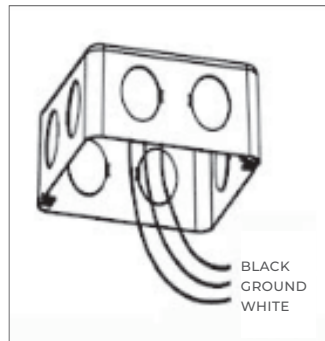

FIGURE 1
A) Prepare fixture for installation. (Figure 1)